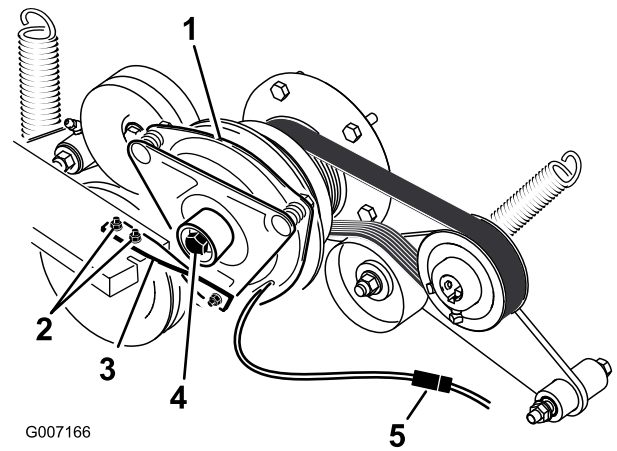

Figure 78
6. Unplug the electric connection for the clutch (Figure 78).
7. Remove the 2 bolts holding the rubber clutch strap to the mower frame (Figure 78).
8. Remove the center bolt holding the clutch to the engine shaft and remove the clutch and key (Figure 78).
15. While holding the crank shaft at the back of the machine, install the center bolt and torque it to 68 N·m (50 ft·lb) (Figure 78).
16. Install the rubber clutch strap to the mower frame with the 2 previously removed bolts and nuts (Figure 78).
18. Plug in the electric connection for the clutch (Figure 78).